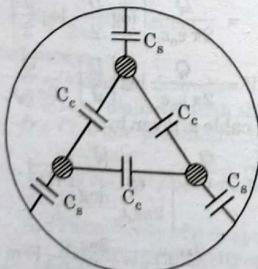

Fig. 5.9.1.
- The capacitances are shown in the Fig. 5.9.1. The core to core capacitances are denoted as  $C_c$  while core to sheath capacitances are denoted as  $C_s$ .